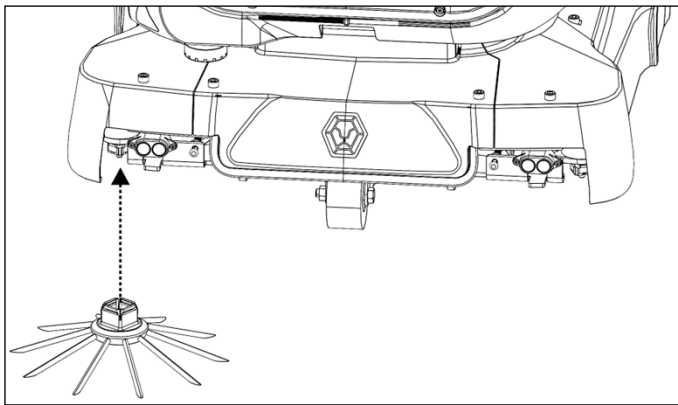

Figure 10
2. Install the brush (Fig. 10). You can hear a click when the brush is successfully installed.